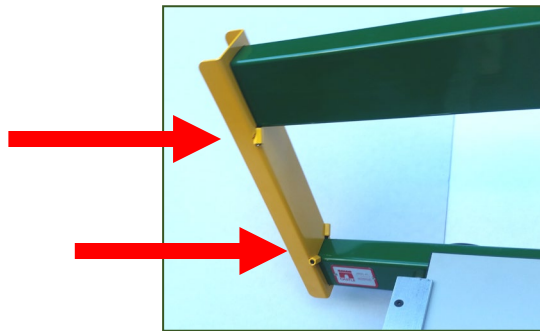

Fig 10
1. Loosen the set screws on the left and right yellow beam brackets on the top of the table. (Fig 10)
2. Remove each beam bracket one at a time and replace each one with the new yellow beam beams brackets. The new beam brackets are shorter than the old brackets. Note the position of the upper set screw. (Fig 10)